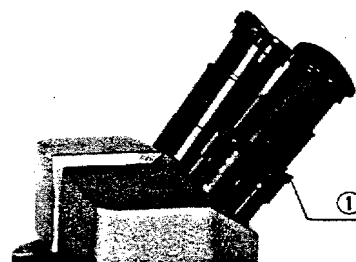

Fig. 4
- Look at the image through the left eyepiece with your left eye, and rotate the diopter adjustment ring ① to focus on the specimen, without using the focusing knobs. (Fig. 4)